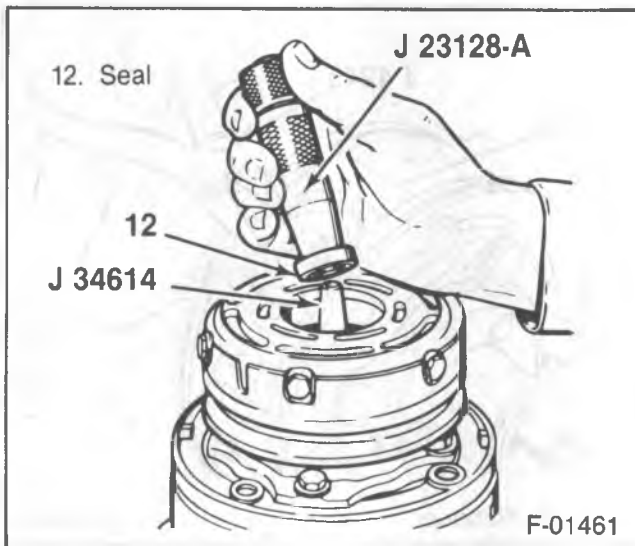

Figure 15—Removing the Shaft Seal with J 23128-A
↔ Remove or Disconnect (Figures 15 and 16)
- Engage the knurled tangs of J 23128-A into the recessed portion of the seal by turning the handle clockwise (figure 15).